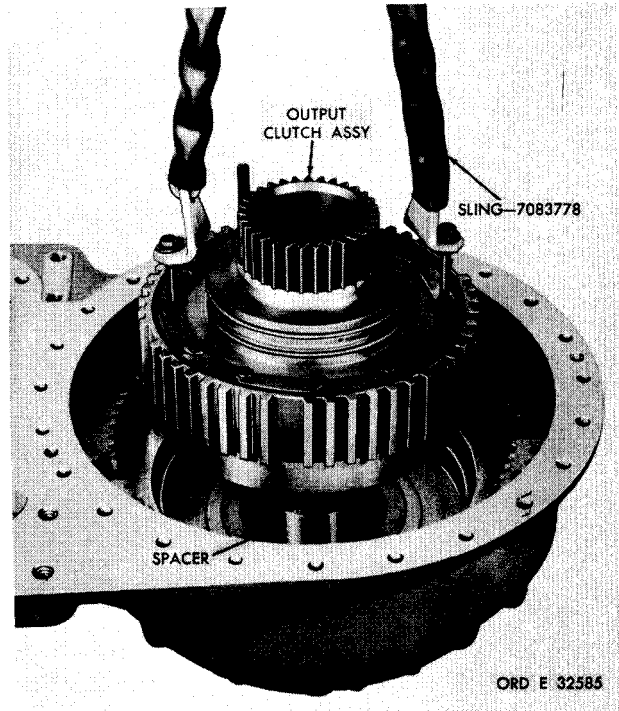

Figure 166. Installing output clutch assembly
k. Install the spacer (fig. 166).
1. Using sling 7083778 and two 5/16-24 bolts, install the output clutch assembly (fig. 166). Remove sling and lifting bolts and install the two remaining 5/16-24 x 5/8 output clutch assembly bolts (fig. 167). Tighten the bolts to 14-18 pound-feet torque and bend corners of the lock strips against them.